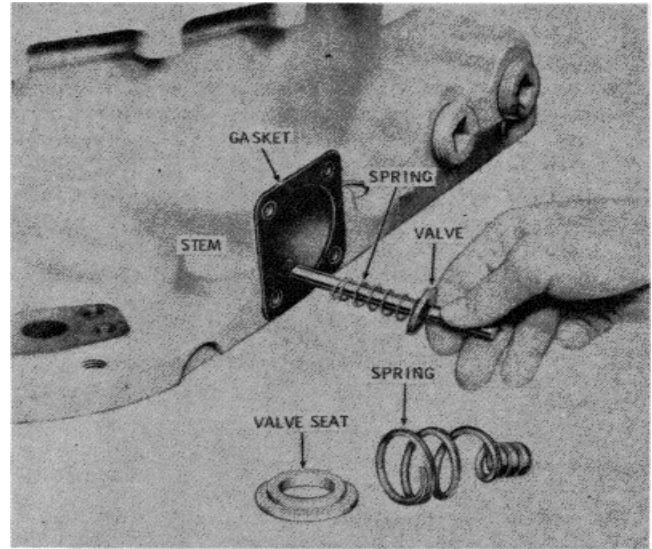

Figure 15-94. Removing Converter-In Check Valve
2. Remove four bolts 53 and lockwashers 54. Remove cover 55. Remove and discard gasket 56. Remove converter-in check valve, pin, spring, and seat (Figure 15-94). Remove the pin from the valve if replacement is necessary.
2. Install the converter-in check valve, pin, spring, and seat (Figure 15-94).